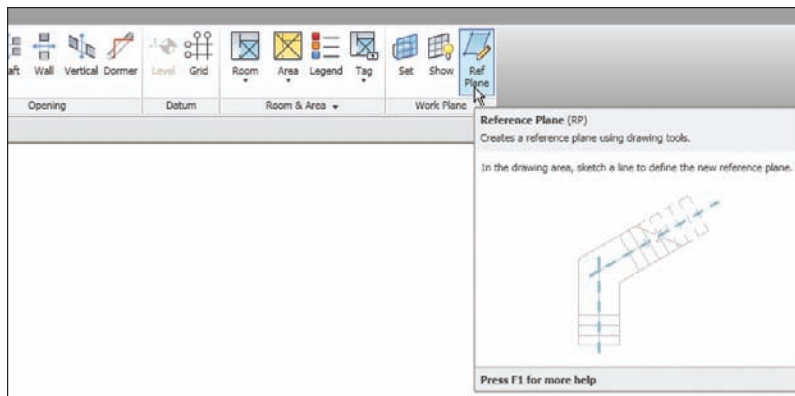

FIGURE 2.2 The Ref Plane command is on the Home tab's Ref Plane panel of the Ribbon.
2. On the Work Plane panel of the Home tab, click the Ref Plane button, as shown in Figure 2.2.